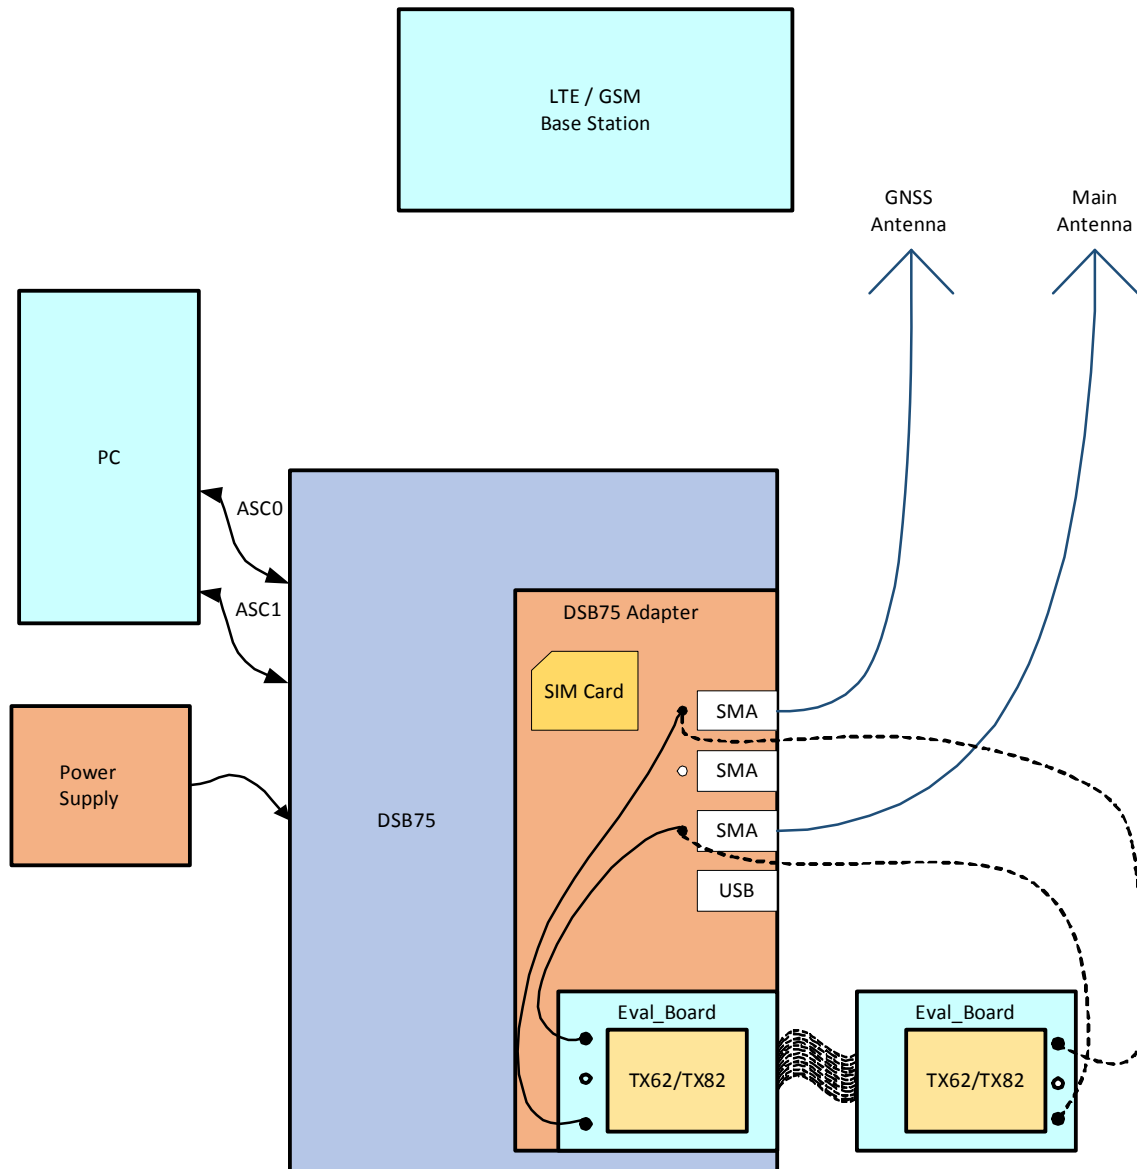

Figure 72: Reference equipment for type approval
- For RF performance tests a mini-SMT/U.FL to SMA adapter with attached 6dB coaxial attenuator is chosen to connect the evaluation module directly to the LTE/GSM/GNSS test equipment instead of employing the SMA antenna connectors on the TX62/TX82-DSB75 adapter as shown in Figure 72. The following products are recommended: